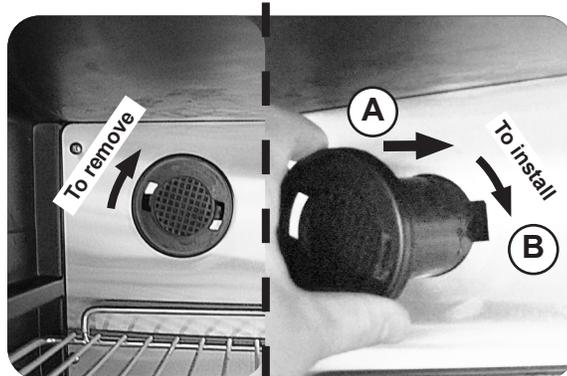

Fig. 11-1 Charcoal filter
1. Locate the charcoal filter towards the back of your beverage cooler. See Fig 11-1. Twist 90° clockwise and pull out to remove. Discard the used charcoal filter.
2. Insert a new charcoal filter and twist 90° clockwise to install. See Fig 11-1, A and B.